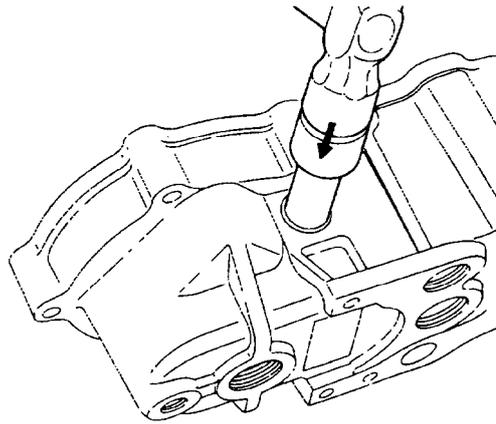

Figure 109 Installing Expansion Plugs
- t.** Install a new expansion plug into the governor cover at both ends of the tension lever shaft (Figure 109). Apply a liquid adhesive to the outside of each plug to prevent oil leakage.